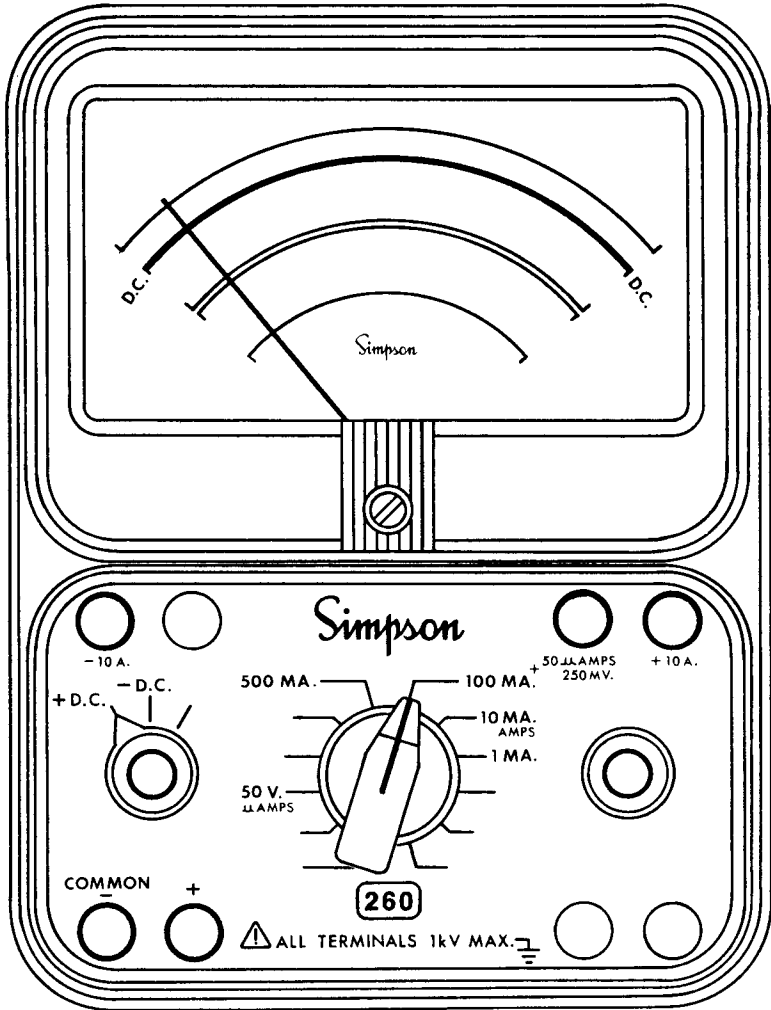

FIGURE 4-7. JACKS AND SWITCH POSITIONS FOR MEASURING DIRECT CURRENT
- a. Set the function switch at +DC (Figure 4-7).